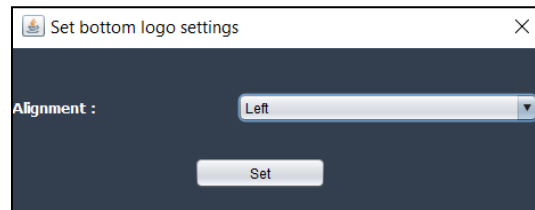

Figure 42 Set Bottom Logo Settings Dialog
- Select “Set as Bottom Logo” from the pop up menu to open the Set Bottom Logo Settings Dialog. Please refer to Figure 42 Set Bottom Logo Settings Dialog.